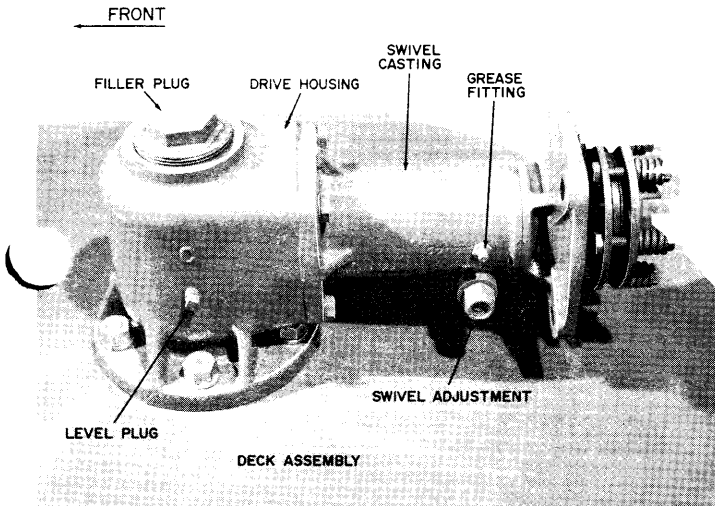

fig 2
- Remove the filler plug and level plug in fig 2. Fill the drive housing to the oil level plug with SAE 90 gear lubricant. Replace the plugs. Check the level periodically especially if signs of leakage are present.
- Grease the swivel casting through the grease fitting on the casting with general purpose grease. Add grease until it comes out under the swivel adjustment. Regrease once a season; fig 2.
1. Swivel action of the mower is regulated by the nut and bolt on the swivel casting, fig 2. Loosening allows more swivel action; tightening reduces the action. The swivel action should allow the mower to follow ground contour.